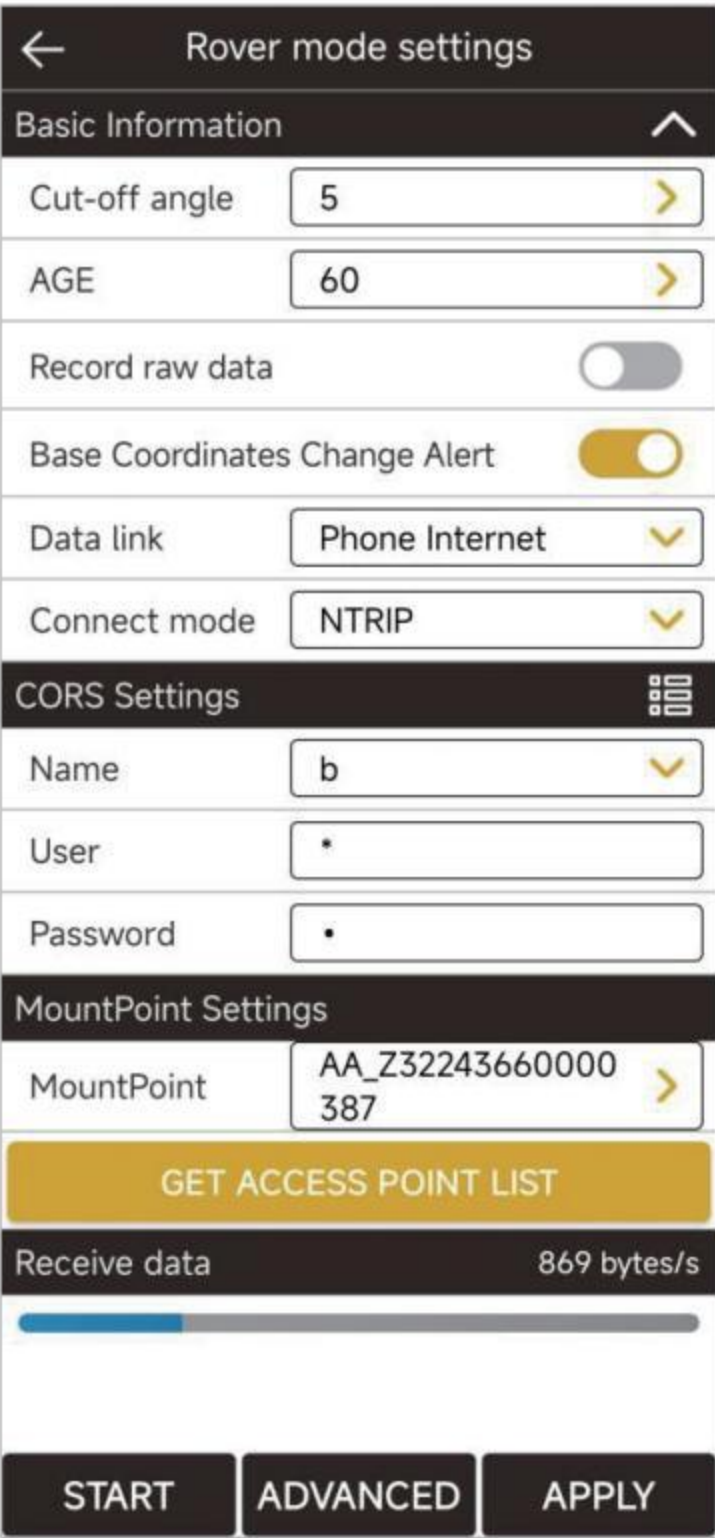

Figure 3.4-1
Click [Device] -> [Rover], as shown in Figure 3.4-1. GNSS positioning equipment can calculate positioning coordinates by receiving satellite signals. In the absence of other interferences, the positioning equipment can only obtain the coordinate position of a single point solution due to the interferences of the atmosphere on the signal, and the accuracy is low. In order to ensure that GNSS devices can obtain high-precision positions, in addition to the GNSS device itself receiving satellite signals to calculate the position, it is also necessary to receive the signal of another nearby fixed-position GNSS device, and use the signal of the other device as the reference signal. Since the influence of the atmosphere on the signal is basically the same within a certain area, when the coordinate position of the reference signal is known, the two sets of GNSS can calculate the high-precision position. The GNSS device with a fixed position is called the base, and the GNSS device with a non-fixed position is called the rover. Relative to the GNSS satellite signal of the rover, the data transmitted by the base is called differential data, and the data transmission method is called data link. The rover mode setting is to set the GNSS as a rover, configure certain parameters to transmit the GNSS satellite signal of the base station to the GNSS device in a certain way, so that the GNSS device can obtain a high-precision positioning.
In addition to differential data transmission configuration, you can also set the GNSS altitude cutoff angle, differential delay, and whether to enable PPK and other basic information, as shown in Figure 3.4-1. Set the altitude angle to not receive the satellite signal when it is lower than a certain value. In the case of poor satellite signals at low angles, it is beneficial to precision calculation. The PPK parameter records the original GNSS
1. Phone Internet: As shown in Figure 3.4-1, it refers to obtaining differential data from the specified server address through the network of the device where the software is located according to a certain protocol, and then sending it to the device through the communication connection between the software and the GNSS device for high-precision solution. Click on the right side of CORS settings  to enter the CORS server management interface, as shown in Figure 3.4-2. You can directly select, edit, and delete existing CORS servers, or manually add CORS server parameters, as shown in Figure 3.4-3. After correctly configuring the server address, obtain the access point list, as shown in Figure 3.4-4, and select the corresponding access point to obtain differential data. Click [Start], if the configuration is correct, the data reception progress bar will move. If there is no data in the progress bar, you need to confirm whether the parameter configuration is correct.